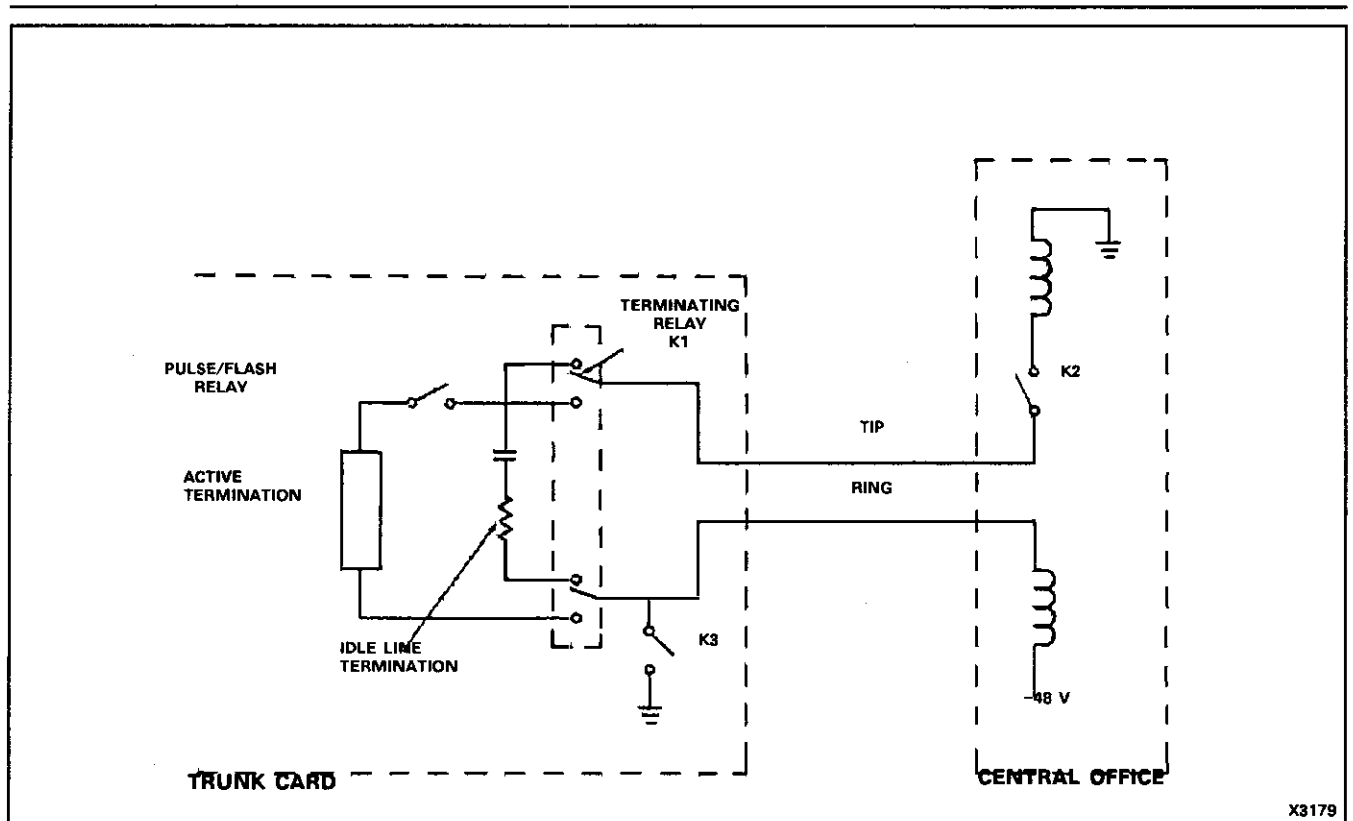

Figure 2-6 Central Office Trunk Circuit - Ground Start
2.39 Ground Start (refer to Figure 2-6). Ground start is a hand-shake method of initiating a CO trunk call. The local trunk circuit grounds the RING lead and awaits recognition by the CO. The CO signals recognition by grounding the previously floating TIP lead. Forty ms after the trunk recognizes 100 ms ground on the TIP lead, a termination is placed across TIP and RING and 40 ms later the ground on the RING lead is removed. The CO then provides dial tone.